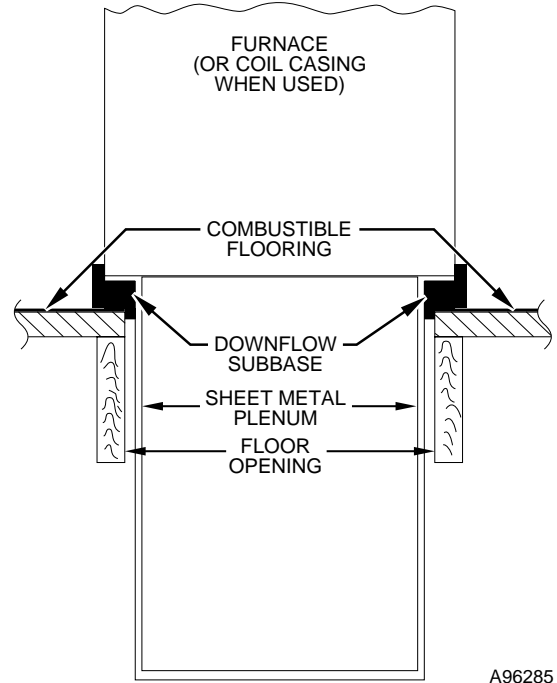
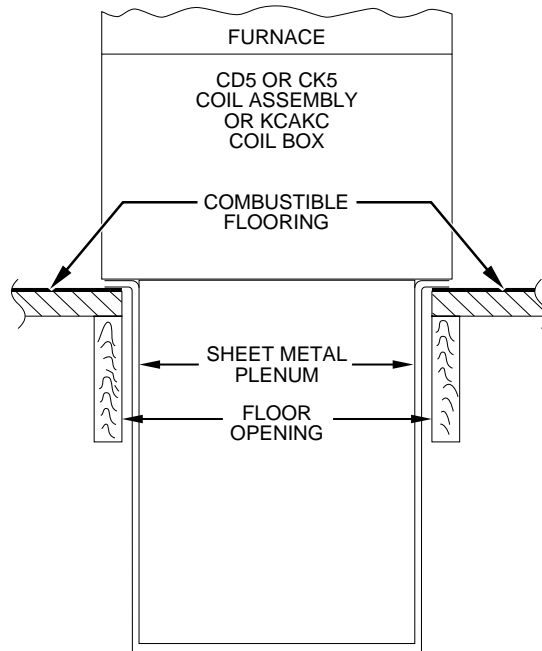

Fig. 12—Furnace, Plenum, and Subbase Installed on a Combustible Floor
Fig. 13—Furnace, Plenum, and Coil Assembly or Coil Box Installed on a Combustible Floor
4. If downflow subbase, KGASB is used, install as shown in Fig. 12. If Coil Assembly Part No. CD5 or CK5 or Coil Box Part No. KCAKC is used, install as shown in Fig. 13.